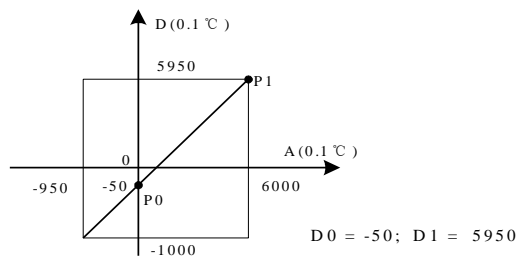

Figure 3-3 Example of characteristic change
(4) If the VC-4PT measurement value is 5 °C (41 °F) higher in actual use, the error can be eliminated by setting the two points P0 (0, -50) and P1 (6000, 5950) of the characteristic adjustment, see Figure 3-3 for an example.